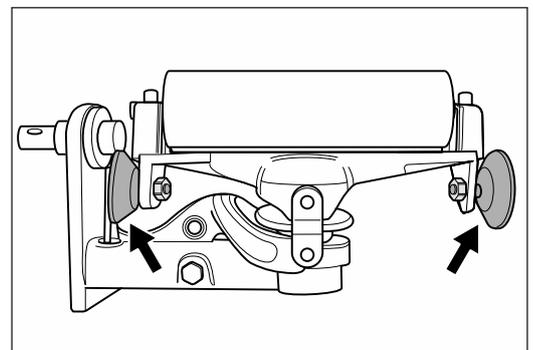

Fig. 43 **The two guide rollers must be rotatable easily! Otherwise they must be replaced!** **Similar to figure.**
- **The two guide rollers at the drive unit must be rotatable easily (fig. 43)!**